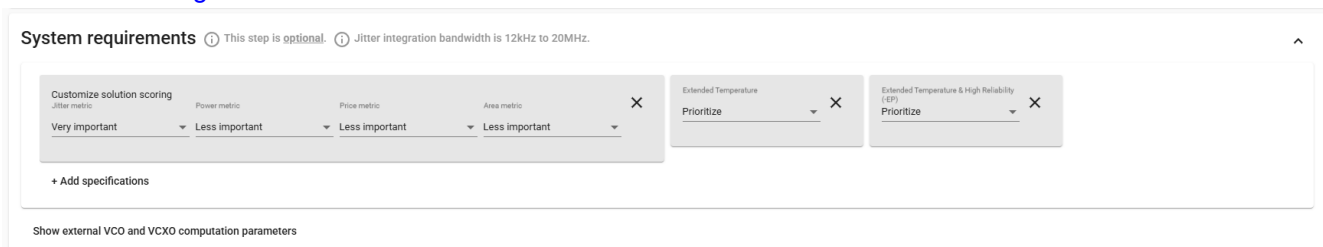

Figure 9-1. System Requirements Section
2. Set your application requirements under *System requirements*. For this example, the aim is to maximize the converter's SNR, so set the *Jitter metric* to *Very Important* and all other parameters to *Less important*, as shown on Figure 9-1.
- a. Refine system requirements by clicking on the *+Add specifications* button. For this example, we selected *Extended Temperature & High Reliability (-EP)* and *Extended Temperature* and set both to *Prioritize*, as shown on Figure 9-1. Select *Require*, *Deprioritize*, and *Exclude*. *Require* and *Exclude* do not consider certain parts from the clocking database while *Prioritize* and *Deprioritize* consider all parts in the database and give certain parts more weight. Other system specifications include programming methods, standard compliance, and overall system power, area, jitter, and price budgets, as shown in Figure 9-2.